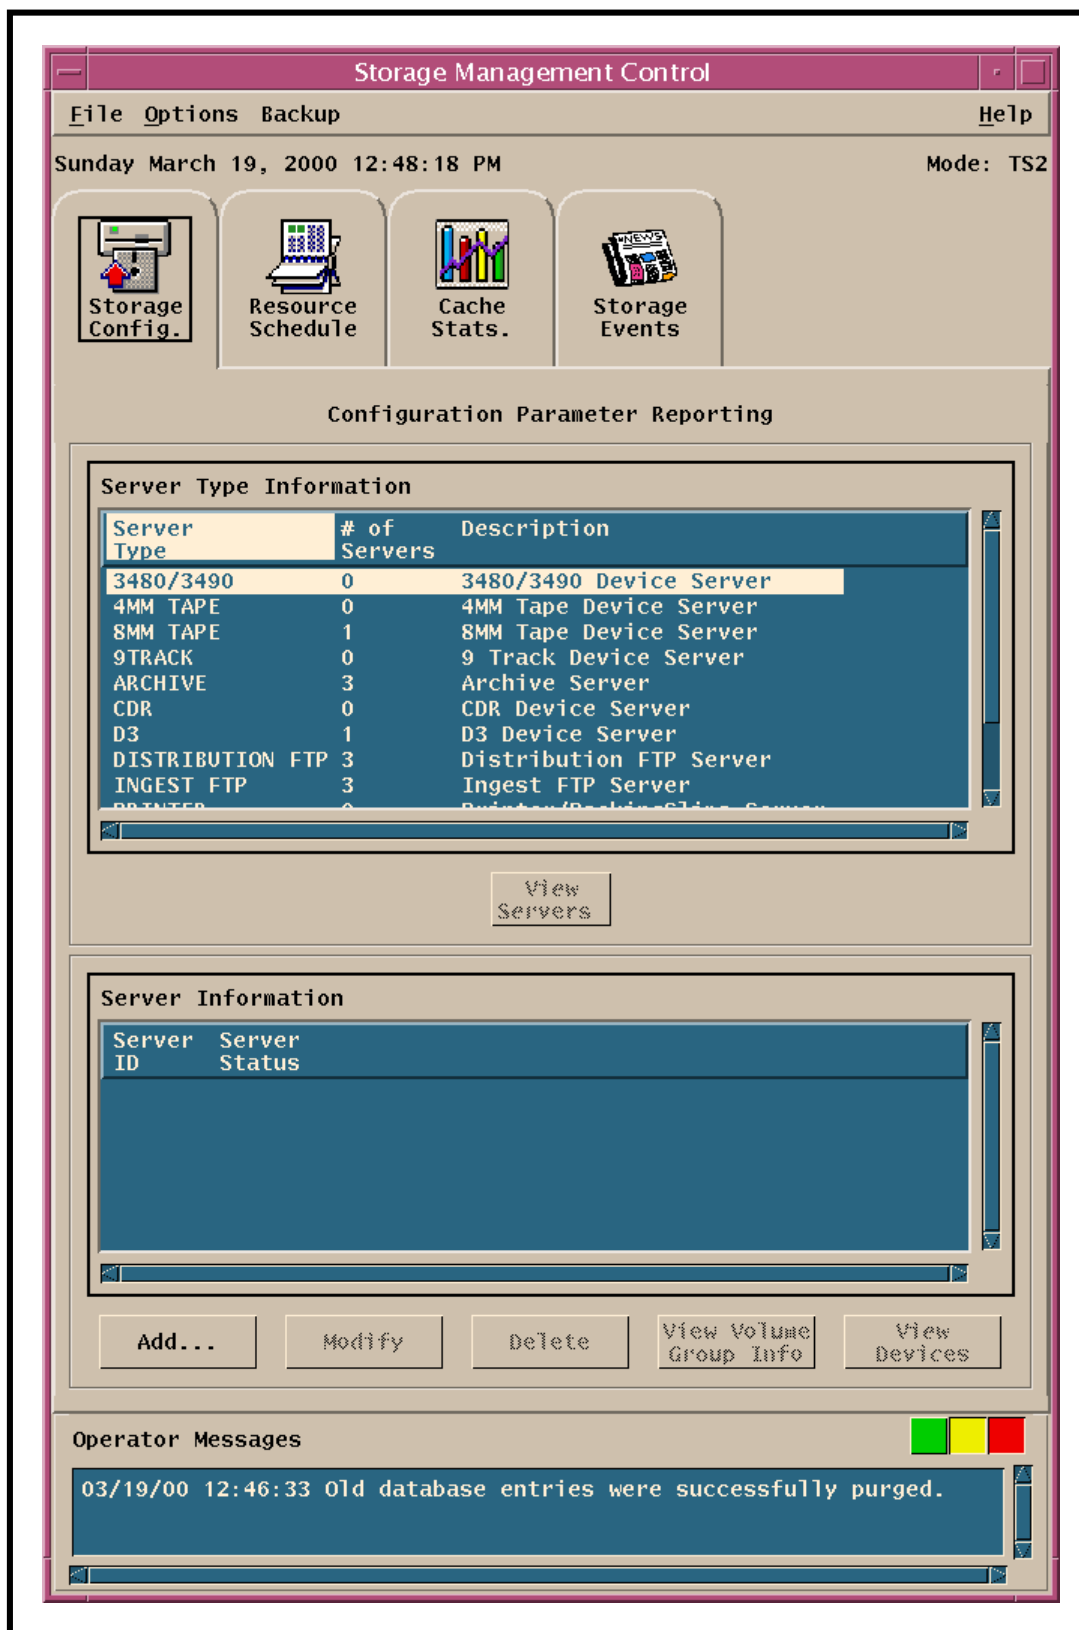

Figure 8. Storage Management Control GUI
- The **Storage Management Control GUI** (Figure 8) is displayed.